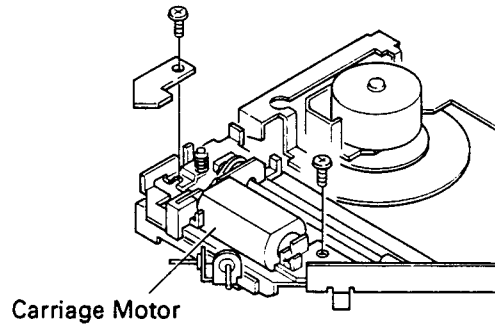

Fig. 11
- 16. Remove two screws and detach the carriage motor. (Fig. 11)